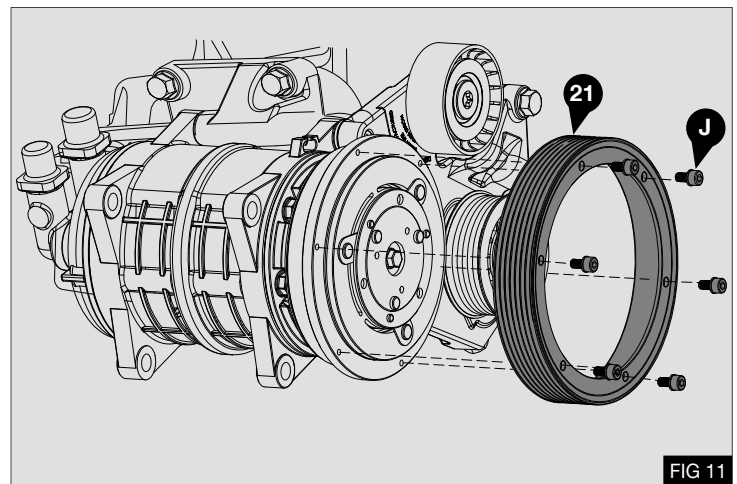

FIG 11
6. Secure the clutch rotor (21) to the compressor using 6 x M5 bolts (J) supplied with clutch - Fig 11